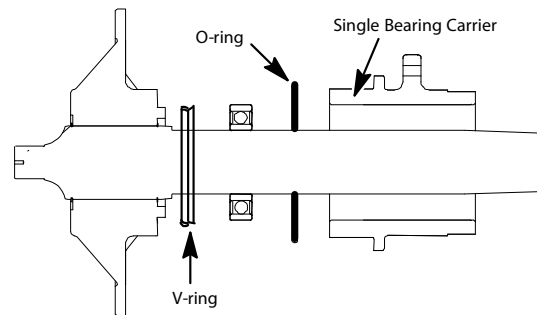

Figure 53 - Output Shaft with O-ring and Seal (machines manufactured before 02/01/03)
- Machines Manufactured Before 02/01/03 - A V-ring was mounted on the gear flange assembly. See Figure 53, and complete the following steps: